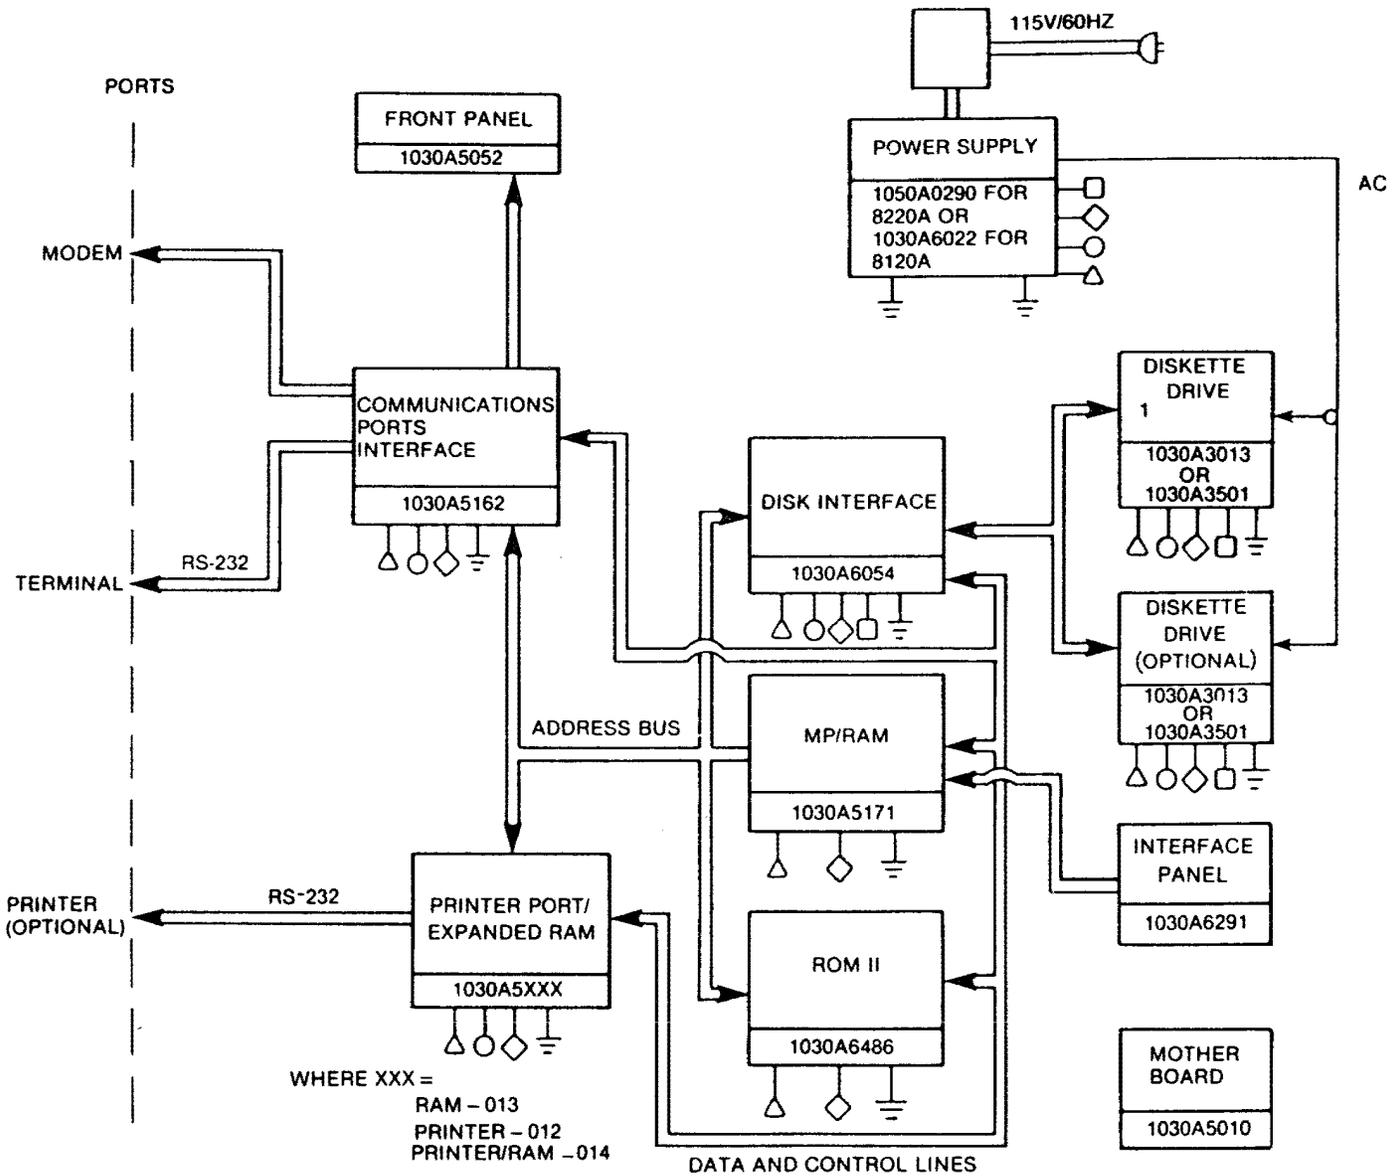

Fig. 4 - Comm-Stor II Unit Block Diagram
2.07 The Comm-Stor II unit is a microprocessor-based system which consists of the following components (Fig. 4):